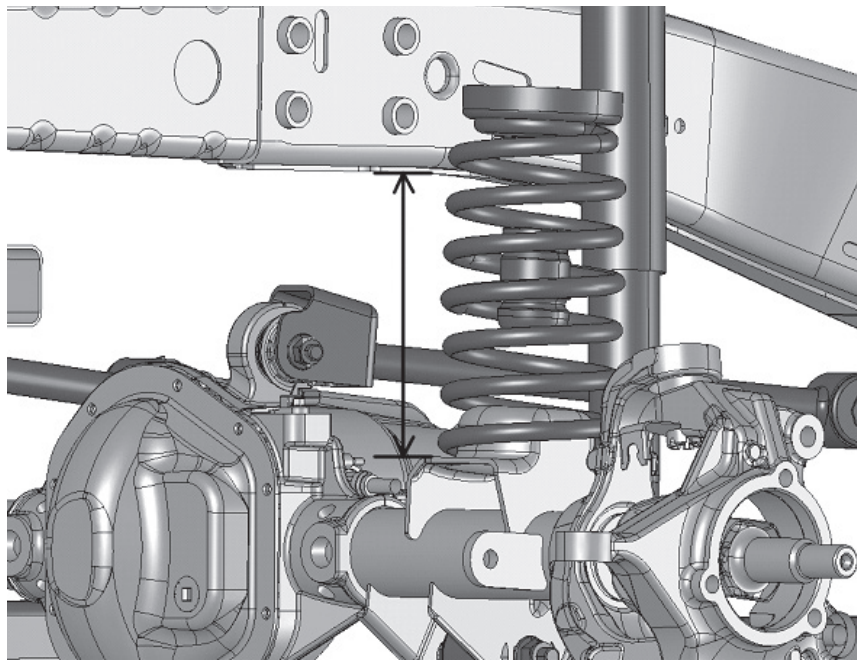

Fig. 4
1. You'll first need to get a measurement from your vehicle to determine whether or not you should be using the drop brackets. Measure from the bottom of the frame to the top of the spring seat (Figure 4.)